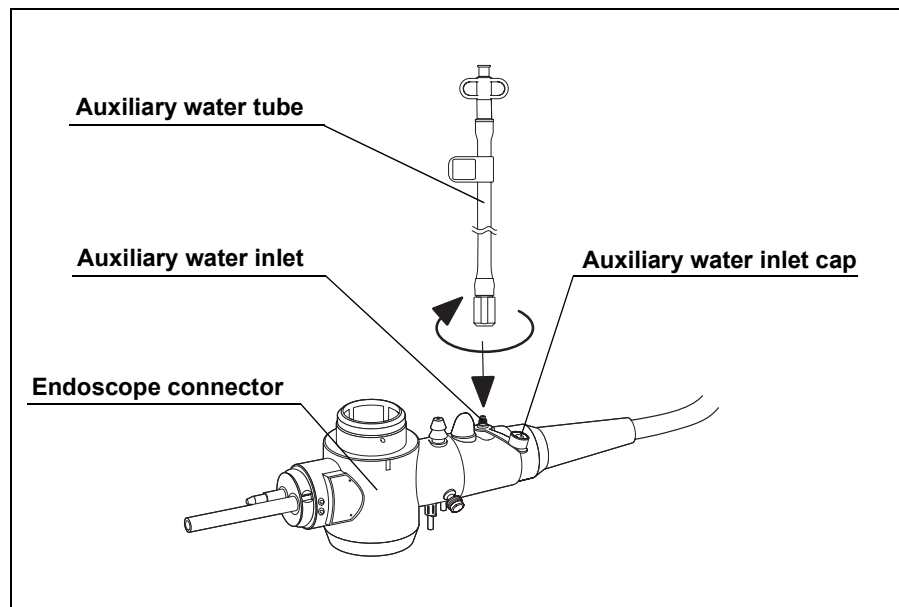

Figure 3.22
9. Open the auxiliary water inlet cap (for endoscopes with auxiliary water feeding only, see Figure 3.22).
10. Connect the auxiliary water tube to the auxiliary water inlet on the endoscope connector and turn it clockwise until it stops (for endoscopes with auxiliary water feeding only, see Figure 3.22).